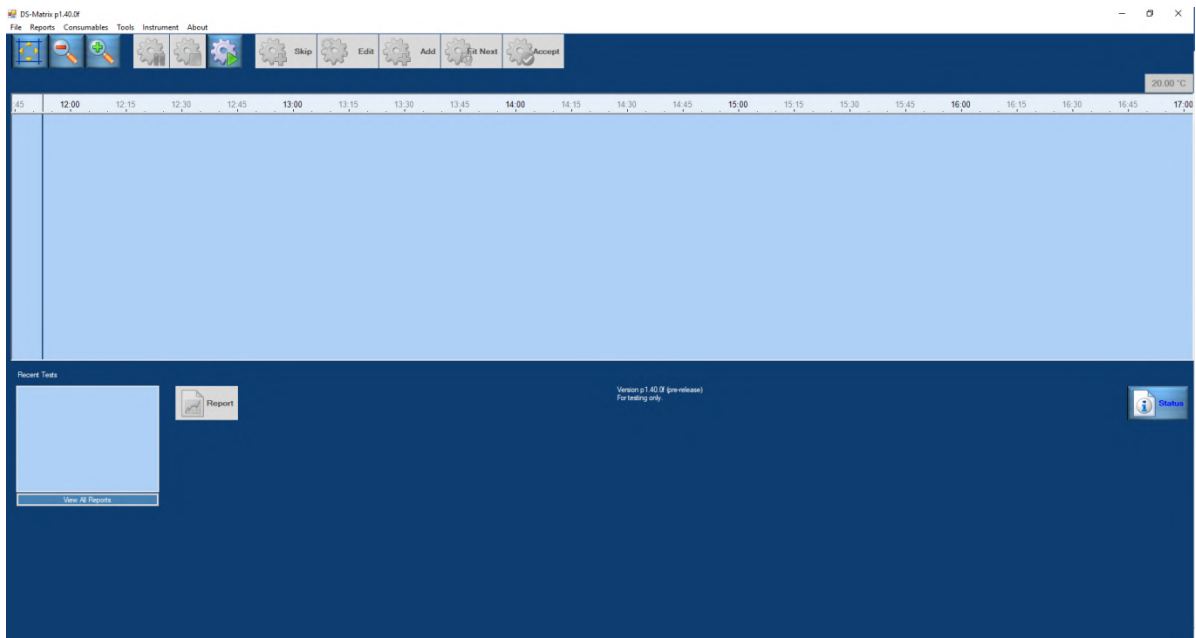

Figure 133: DS-Matrix Software Main Screen
- **Normal Mode** - the instrument will initialize, perform self-testing and display the self-test report (if reporting of self-test results is enabled as described in Chapter 5.7.6). Close the self-test report to display the DS-Matrix main screen (Figure 133).